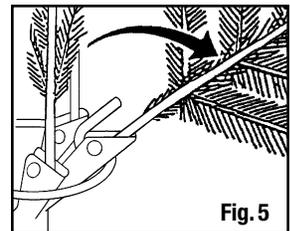

Fig. 5
- 3a. **HINGED TREES:** Working your way up from the bottom, gently lower all branches from their upright setting (Figure 5). Each branch must be shaped to a natural position by spreading out the left and right tips away from the center tip (See Shaping Instructions on page 7). Continue to lower branches on upper section(s) in the same manner making sure not to place undue pressure on the brackets.